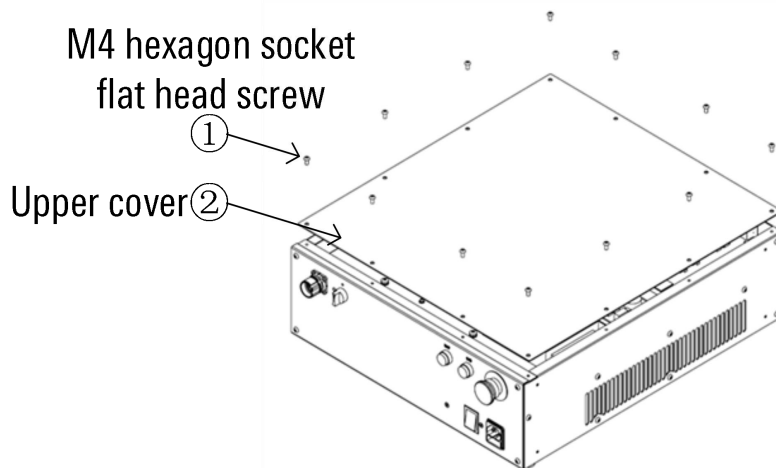

Figure 8-2 Opening method of top cover of control cabinet
Step2. Remove the top cover, as shown in Figure 8-2.